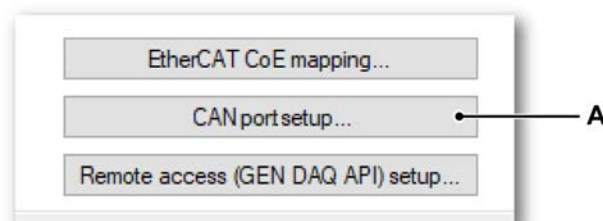

Figure 11.53: Opening CAN port setup options
- 1 Publish to CAN is disabled and must be enabled by opening the **CAN port setup** (see Figure 11.53).